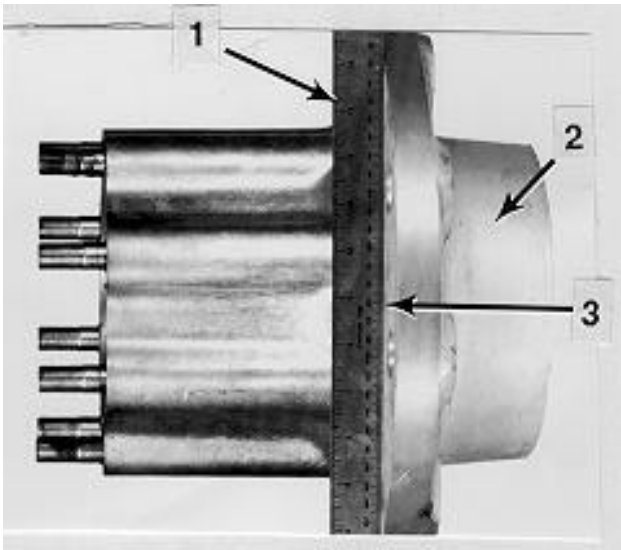

Figure 36 Checking for Bent Hub Face
5. Bent Hub Face (Figure 36). This condition can be caused by wheels running loose for an extended period of time. Continual retightening of wheel nuts is an indication of bent hub; hub should be checked. If there is more than a 1/32 inch gap as shown in Figure 36 , replace hub.